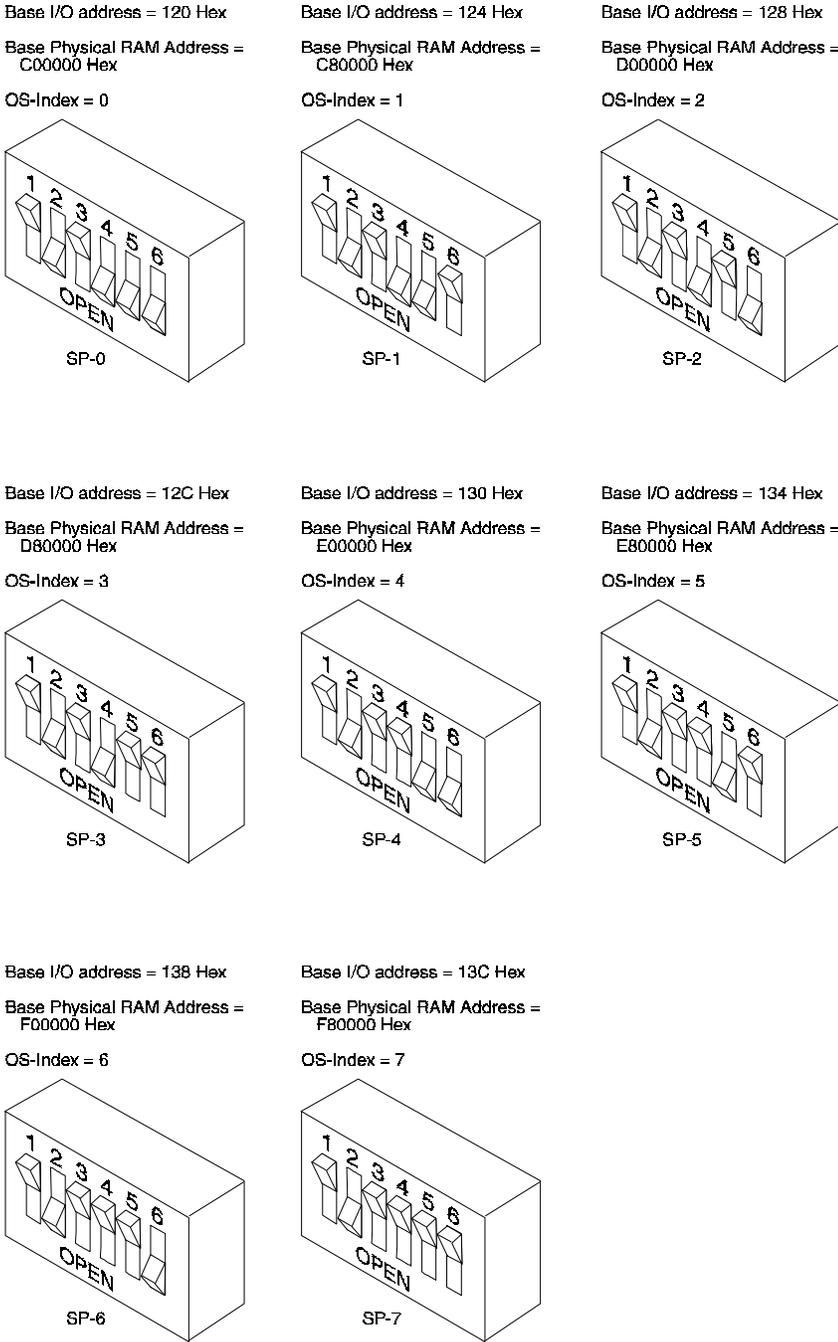

Figure 7-19. Switch Settings for Signal Processor Circuit Cards (AYC2B, AYC2C, and AYC9) SP-0 through SP-7
Set the switches as shown in Figure 7-19 for the correct I/O address switch settings for cards SP-0 through SP-7.
Notice in Figure 7-19 that the switches are numbered one (1) through six (6). Switch 1 is a no-option switch. This means its setting is not important. The figure shows this switch as open, but it does not matter if it is open or closed. Switch 2 must be closed. Switch 3 must be open. Figure 7-19 also displays the OS index number for the corresponding switch settings. CONVERSANT uses this index to identify each SP card.